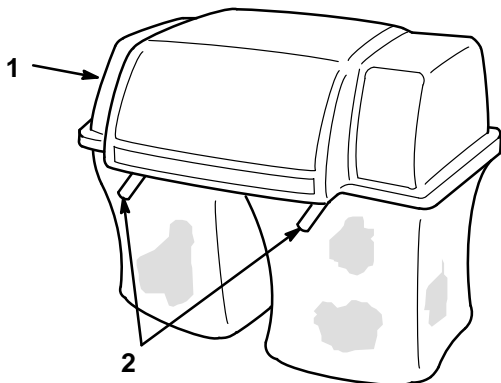

Figure 24
2. Raise the bagger top and remove the grass bags from the bag frame (Fig. 24).